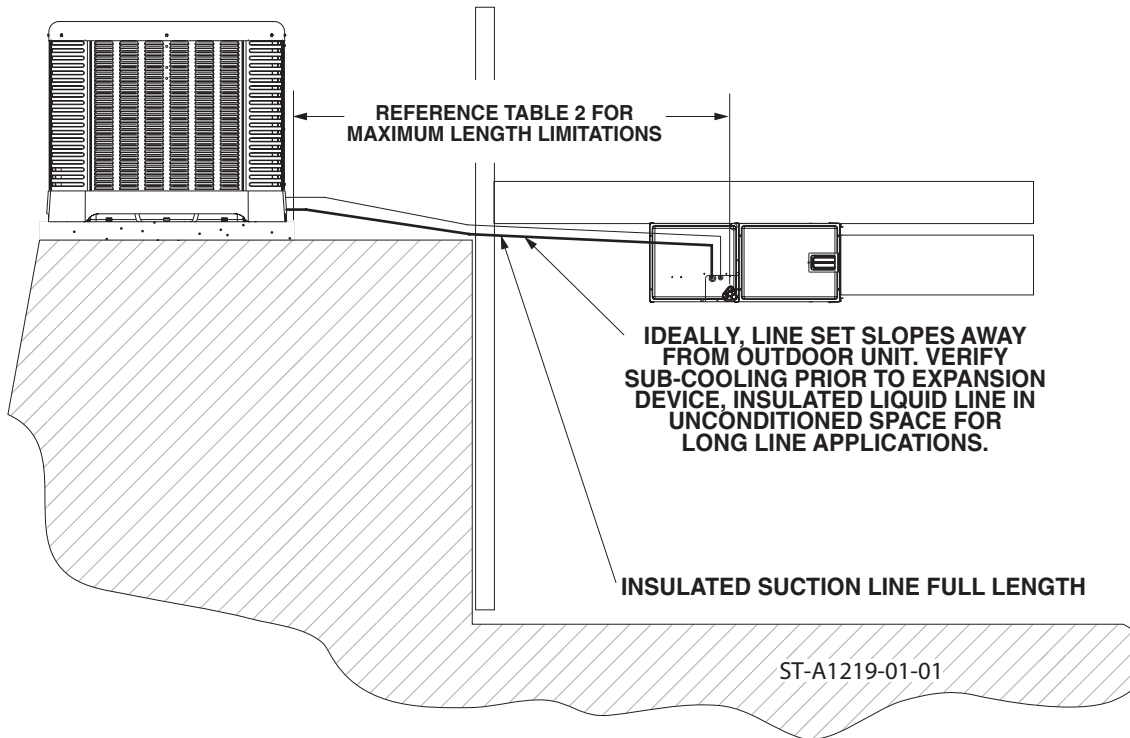

Figure 3
- Suction line should slope toward the indoor unit. (Reference Figure 3)